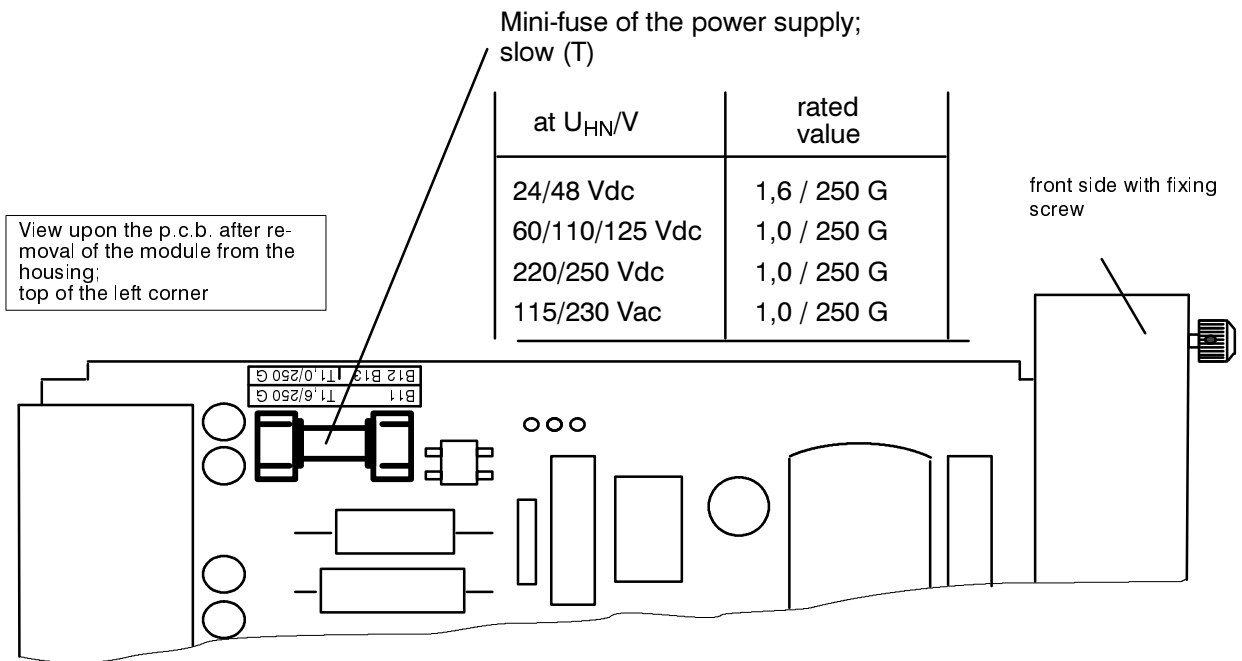

Figure 7.1 Mini-fuse of the power supply
- Has the mini-fuse in the power supply section blown (see Figure 7.1)? If appropriate, replace the fuse according to Section 7.2.1.
- Select a replacement fuse 5×20 mm. Ensure that the rated value, time lag (slow) and code letters are correct. (Figure 7.1).
- Remove blown fuse from the holder (Figure 7.1).
- Fit new fuse into the holder (Figure 7.1).